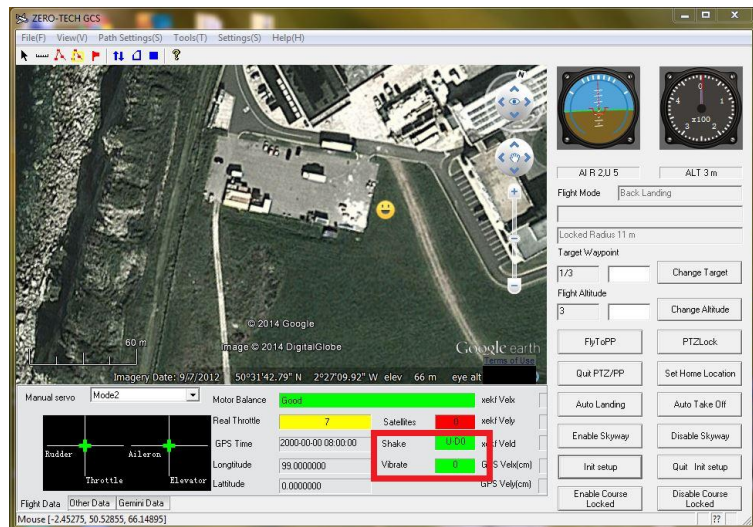

Figure 50
- **PC ground station:** Open Wi-Fi and the “Flight data” section will open at the bottom or select “View” → “Flight data” to check. The parameters are indicated in Figure 50.